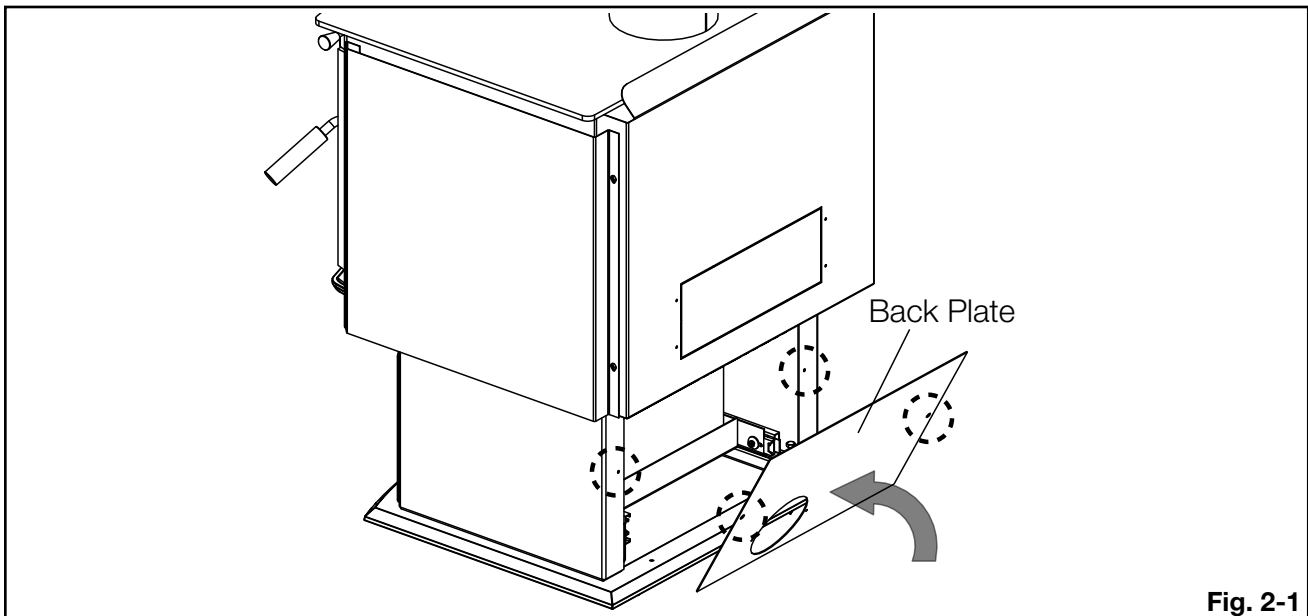

Fig. 2-1
1. Place the back plate in position, ensuring the holes in the back plate align with the holes in the appliance (**Fig. 2-1**).